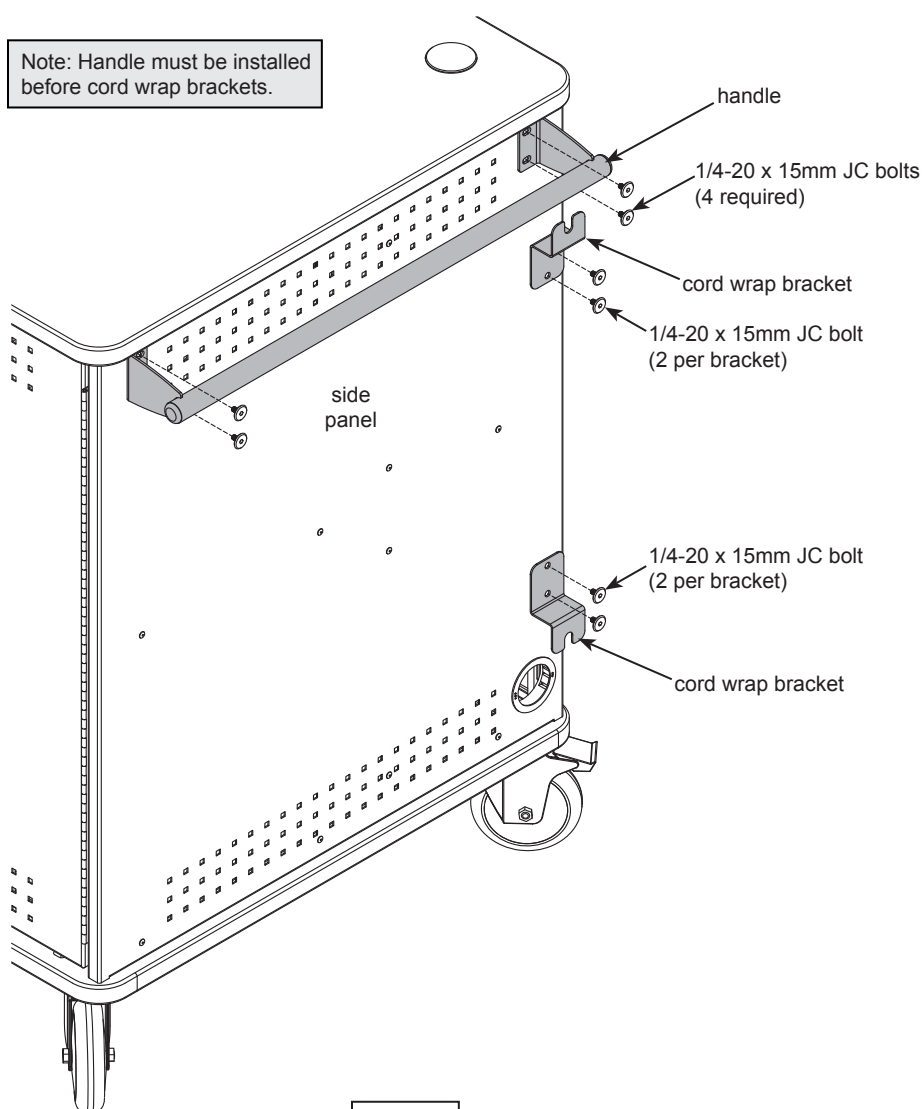

Figure 1
1. The vLT-32 has two handles. Attach each handle to the cart side panel with (4) 1/4-20 x 15mm JC bolts and tighten securely. **Figure 1.**